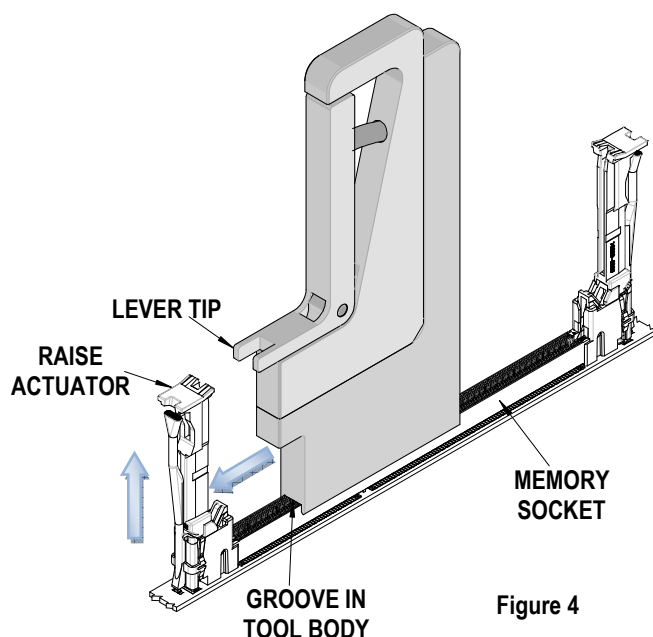

Figure 4
3. Slide the tool towards the actuator. If the actuator is down, it will be necessary to lift the actuator slightly so the extraction lever tip will fit under it. See Figure 4.